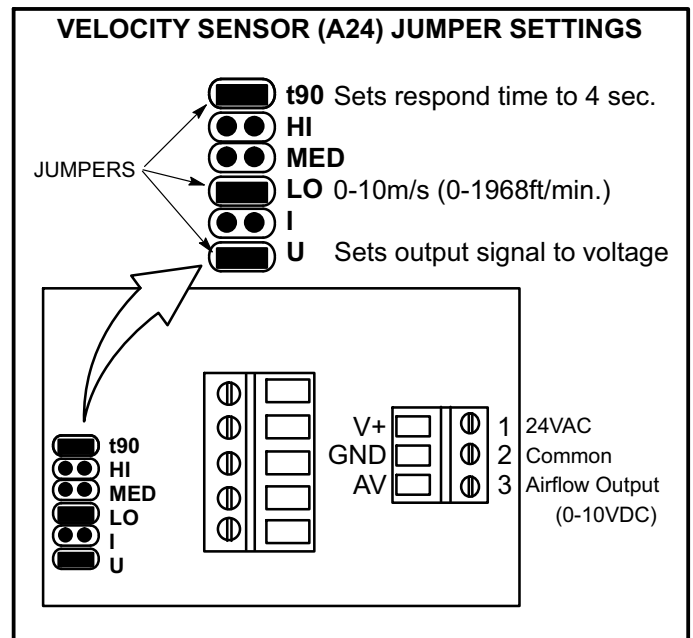

FIGURE 54
- 2- Make sure the A24 jumper is installed in the low range position as shown in figure 54.